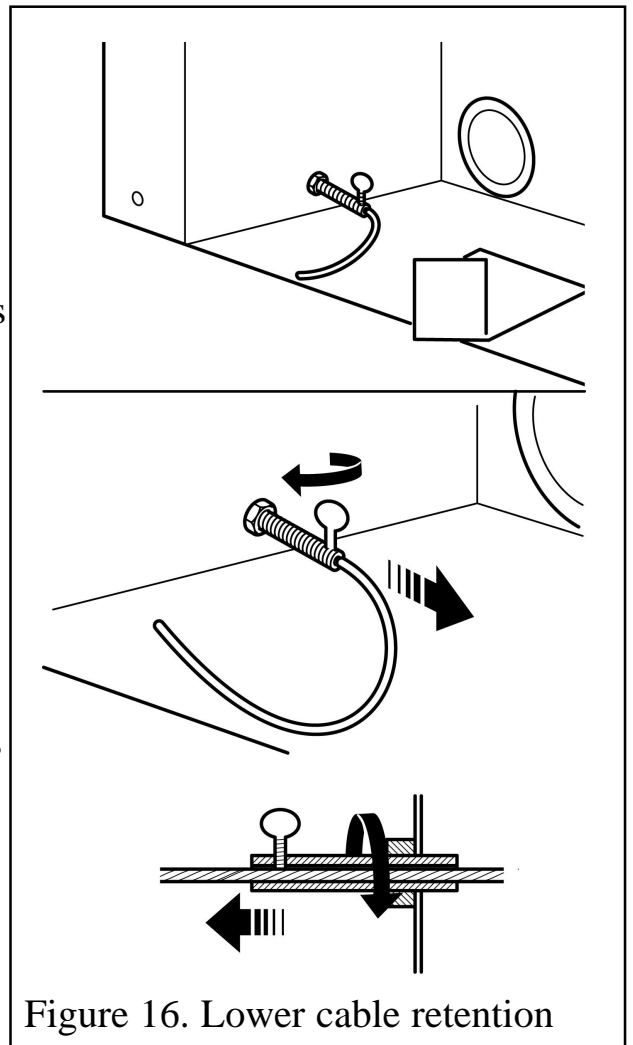

Figure 16. Lower cable retention
9. Pull each cable taut. Push the cable retainers hard up against the back panel. Tighten the screws in the retainers so that they clamp the cables in position. Apply tension to the cables by turning the hexagonal adjusters by hand (See figure 16).